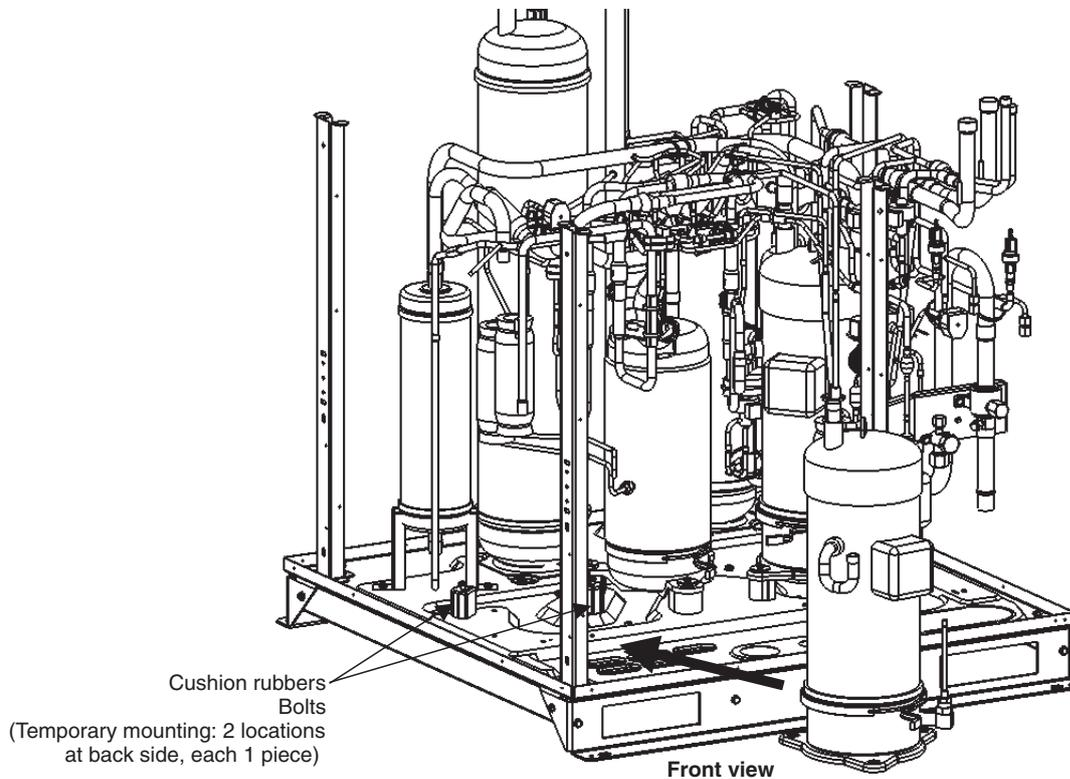

Fig. 25
- (3) Remove the oil equalizer tube connector parts along with the O-ring from the removed compressor and mount them on the replaced new compressor.
- (4) Install the crankcase heater onto the new compressor.
- (5) Temporary mount 2 cushion rubbers with bolts at the position as shown in the figure 25. Set up the leg of the new compressor onto the 2 cushion rubbers.